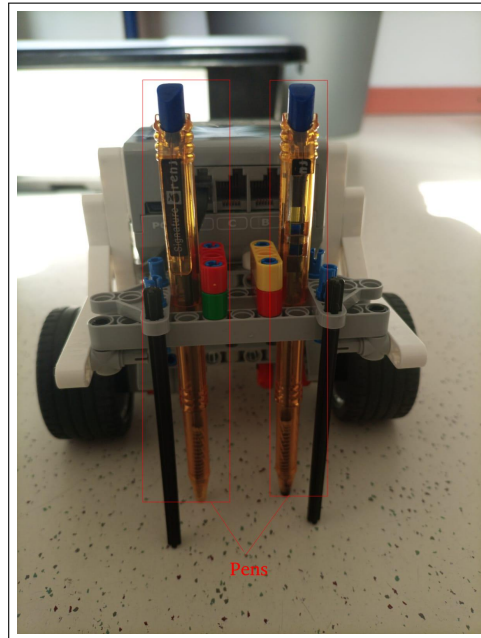

Figure 1.4: Front view of the robot where the pen is situated
- For the measurement purpose, a mechanism is designed which hold the pens in a fixed position and it is situated at the front of the robot as can be seen in Figure 1.4.